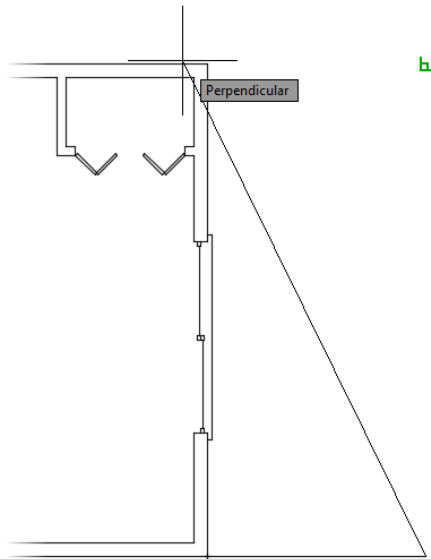

FIGURE 5.13: Drawing the vertical line perpendicular to the upper cabin wall
6. Use the Perpendicular Object Snap by entering **PER**↵ at the command line, or by pressing the Ctrl key and the right mouse button simultaneously. Place the cursor over the top-outside horizontal line of the cabin and, when the Snap marker appears (see Figure 5.13), click to draw the vertical line of the deck's perimeter.